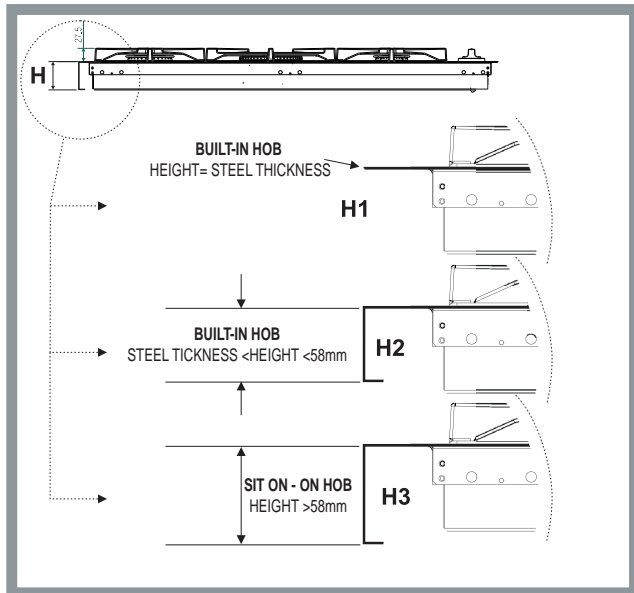
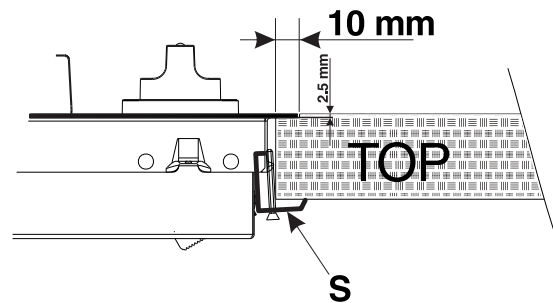
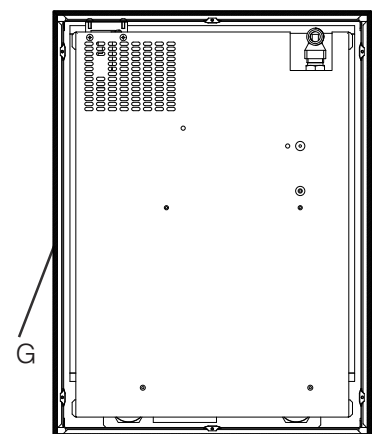
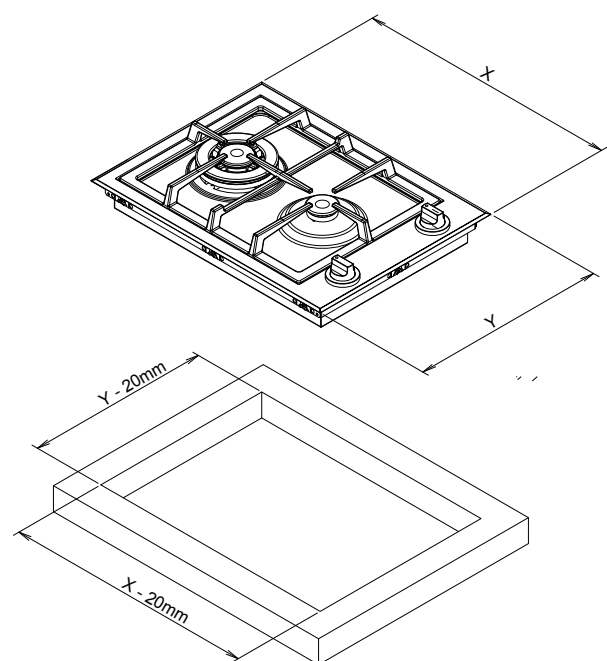

Fig. 2
Fig. 3a
Fig. 3b
Fig. 3c
- 1- Built-in hobs to be slotted in (Class 3 - see figure 2, detail H1). In this case it is necessary to make a hole in the worktop whose measurements match those of the hob. The measurement at the side should be reduced by 2 cm so as to ensure that 1 cm of the perimeter of the hob overlaps with and rests on top of the supporting surface. To slot in the hob flush with the worktop, the cut-out on this supporting surface must be lowered (see figure 3a), so that both the edge of the hob and the seal under it can be positioned there. Before fitting the hob to the worktop, position the seal G provided along the perimeter of the hob, as illustrated in figure 3b. Brackets for fixing hobs to the cabinet have been provided, and these should be fitted as shown in detail S (fig. 3a).
- 2- Built-in hobs (Class 3) with edges lower than 58 mm (see figure 2, detail H2)(fig 3c). To install this type of hob, a hole large enough to accommodate the whole lower casing of the appliance must be made on the worktop intended to be under the hob. Remember to leave a gap of at least 1 cm between the lower casing and the worktop around the whole perimeter of the appliance (the underside of the casing can, however, touch the surface below it). To fit the appliances, follow the instructions given above in point 1 or use any supplementary instruction leaflet that is provided in special cases.
- 3- Sit-on hobs (Class 1) with edges higher than 58 mm (see figure 2, detail H3). In this case, the lower